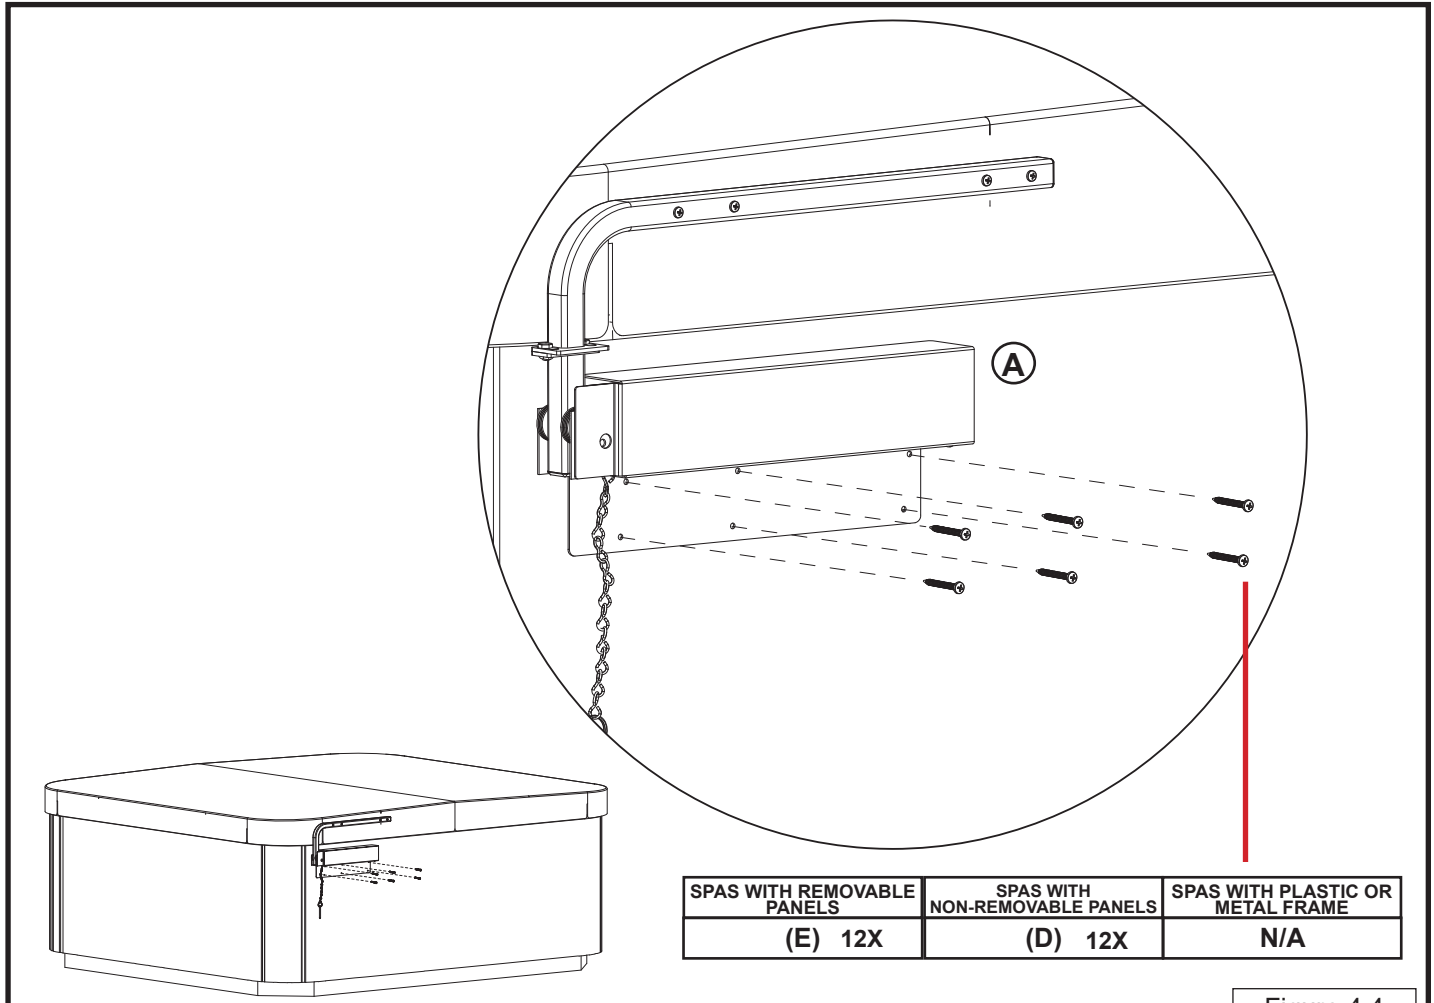

Figure 4.4
Use the appropriate size screws to secure the brackets at the bottom part of the main assembly. Please use (Figure 4.4) and information on Page 6 of this document to determine the correct screw size.
- 5a. Secure the Main Assembly (A) to the spa cabinet using (6) of the Phillips Pan Head Screws per Main Assembly (Figure 4.4). You will be using the following bags: Bag # 2 (E) (#10 2½" screws) used on spas with removable panels.
- 5b. Secure the Main Assembly (A) to the spa cabinet using (6) of the Phillips Pan Head Screws per Main Assembly (Figure 4.4). You will be using the following bags: Bag # 1 (D) (#10 1½" screws) used on spas with non-removable panels.